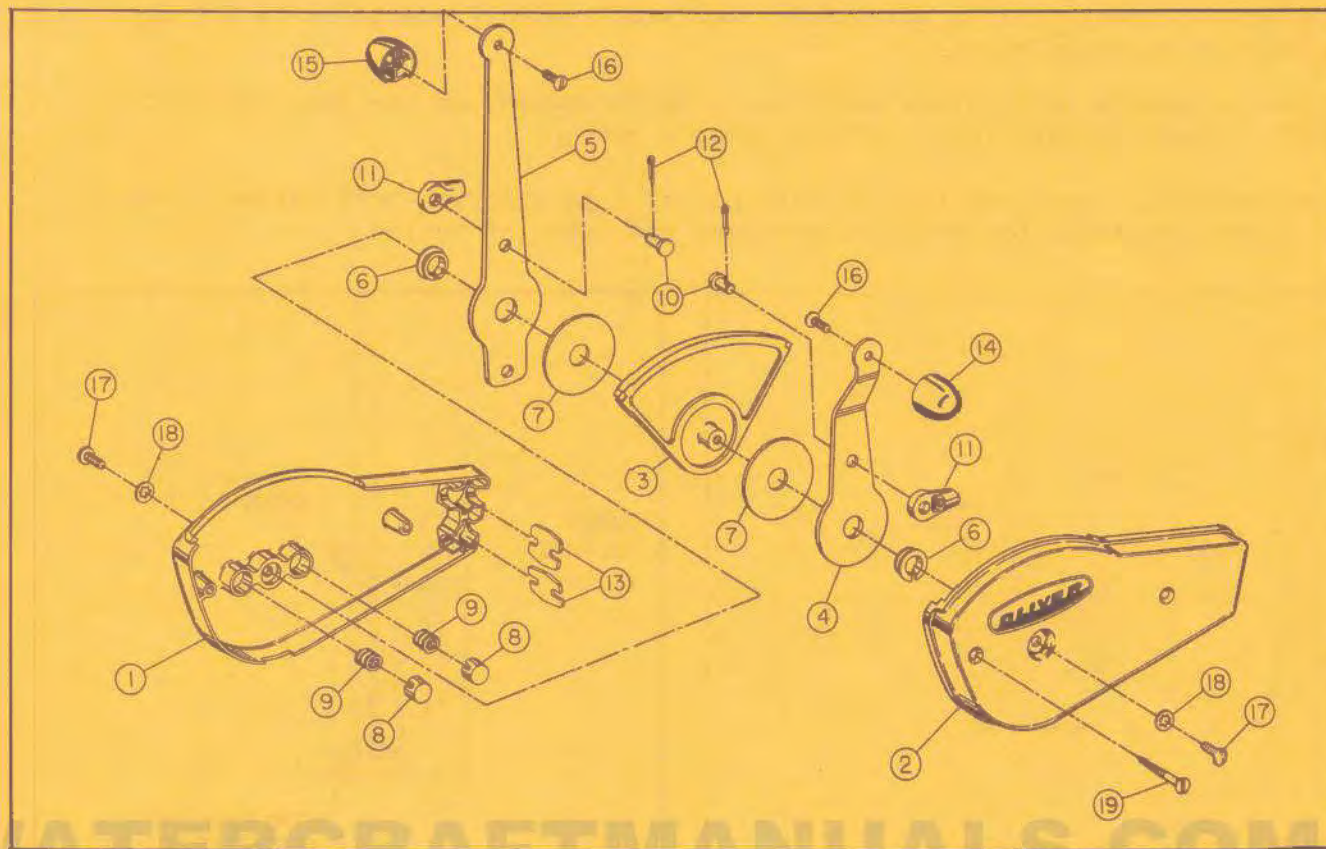

FIGURE 8
The control head has two mating case halves, Item (1) and (2) of Figure 8 with a separator segment (3), held between them.